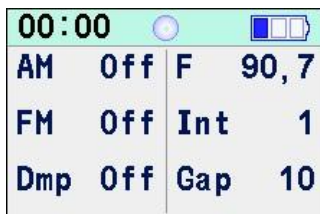

Fig.16
5.3 Then the device switches to the state that displays **basic parameters** (hereinafter called '**B' state**'). So, the basic parameters of stimulation will be displayed (Fig.16).